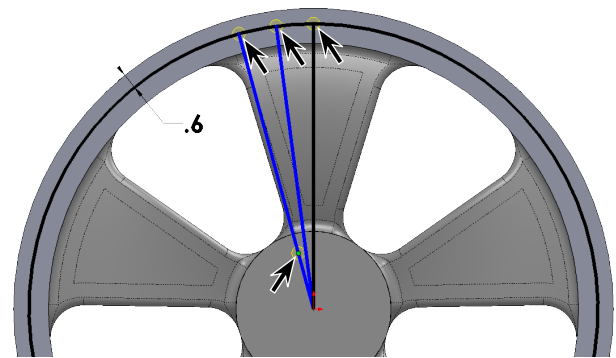

Fig. 40
Step 12. Click to sketch a **Point on top endpoints of each radial lines**. And sketch a **Point on most left angled line near Origin**, **Fig. 40**. Don't place any extra Points.
Step 13. Click **Smart Dimension**  (S) on the Sketch toolbar.